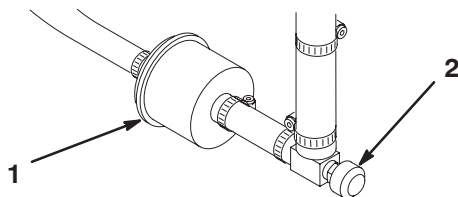

Figure 38
An in-line filter is incorporated into the fuel line between the fuel tank and carburetor (Fig. 38). Replace the filter every 800 hours or sooner if the fuel flow is restricted. Be sure the arrow on the filter is pointing away from the fuel tank.
1. Close the fuel shut-off valve, loosen the hose clamp (Fig. 38) on the carburetor side of filter and remove the fuel line from the filter.
2. Place a drain pan under the filter, loosen the remaining hose clamp, and remove the filter (Fig. 38).